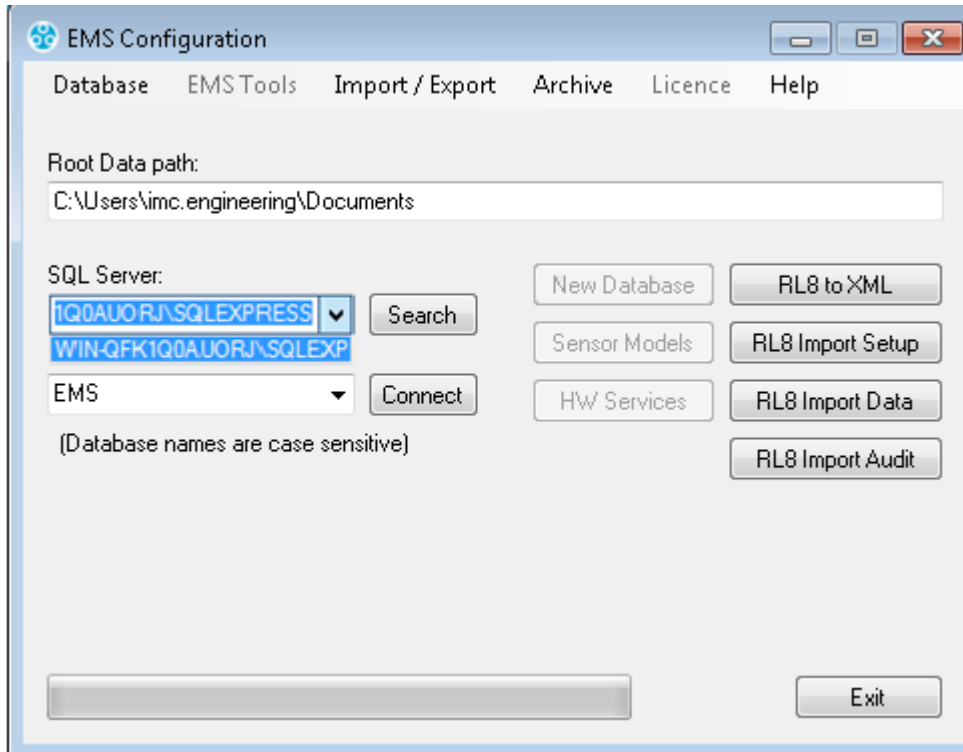

Figure 140
- Select the required SQL Server instance from the drop-down list. See Figure 140 below.